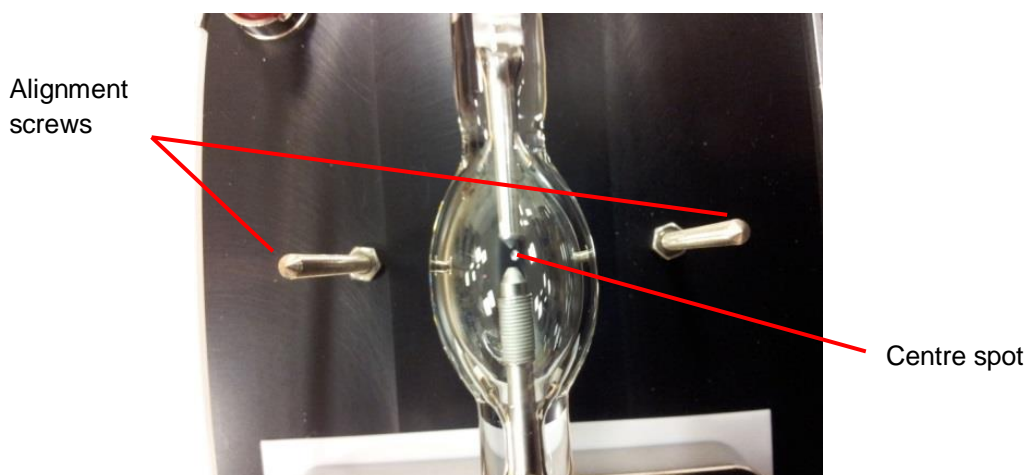

Figure 3.6 - Location of lamp alignment pillars and centre spot
11. Adjust the lamps vertical position within the mounting block, so that when viewed from the side, the gap between the two electrodes within the lamp envelope aligns with the two alignment pillars (Figure 3.6).